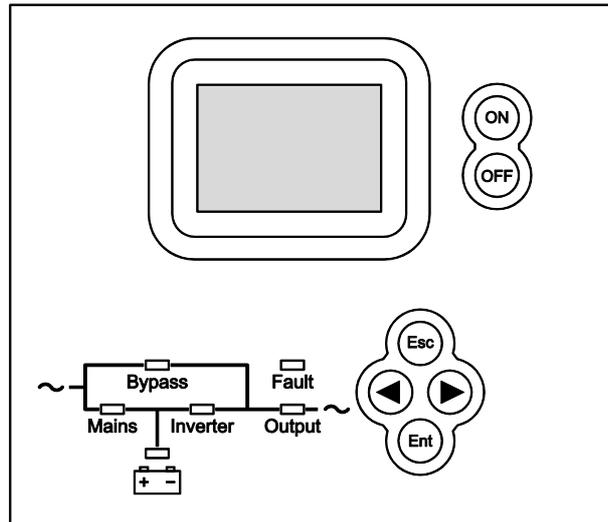

Figure 4 Front panel
At the same time that the fan starts the Bypass and Output LEDs are illuminated. After a few seconds the Mains and Inverter LEDs are illuminated and the Bypass LED goes out (see Figure 4 on page 17).
1. On the front panel (see Figure 4 on page 17), press **OFF** to place the unit in bypass mode.
The front panel controls and indicators are shown in Figure 4. Using the buttons, LEDs and the menu structure displayed on the LCD panel you can: